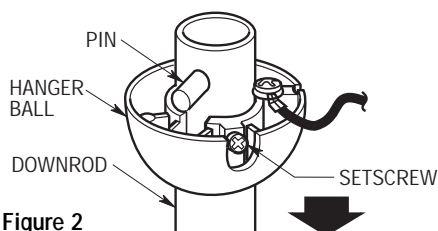

Figure 2
- 1. Remove the hanger ball by loosening the setscrew in the hanger ball until the ball falls freely down the downrod (Figure 2). Remove the pin from the downrod, then remove the hanger ball. Retain the pin and hanger ball for reinstallation in step 5.